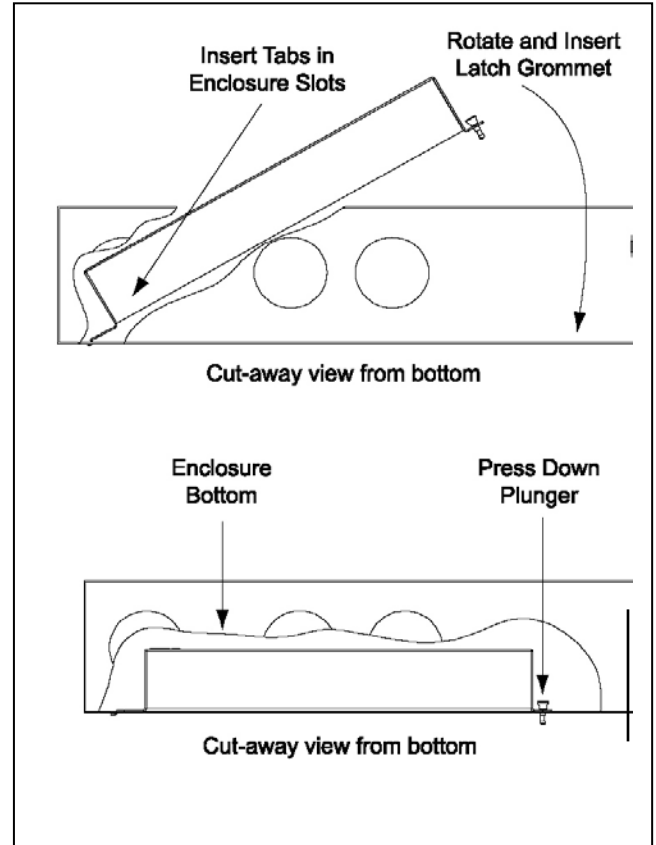

Figure 2
- b. Align two stationary tabs on the mounting plate with slots on the back of the enclosure (see *Figure 2*).
- c. Insert tabs by angling module away from the back of the enclosure and sliding forward (see *Figure 2*).
- d. Rotate the mounting plate and insert the built in locking tab (push-pins) on the mounting plate into the corresponding hole on the back of the enclosure, pushing in until it snaps into place (see *Figure 2*).